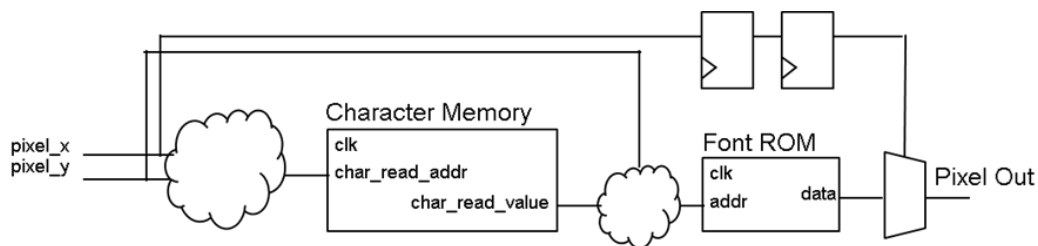

Figure 10.7: Character Generator Memory Organization.
3. The final step is to determine which of the 8 pixels in the font ROM line to display. You will use the bottom three bits of the `pixel_x` signal to determine which of these 8 pixels to display. The relationship between the character memory, font ROM, and the 8:1 multiplexer is shown in Figure 10.7.